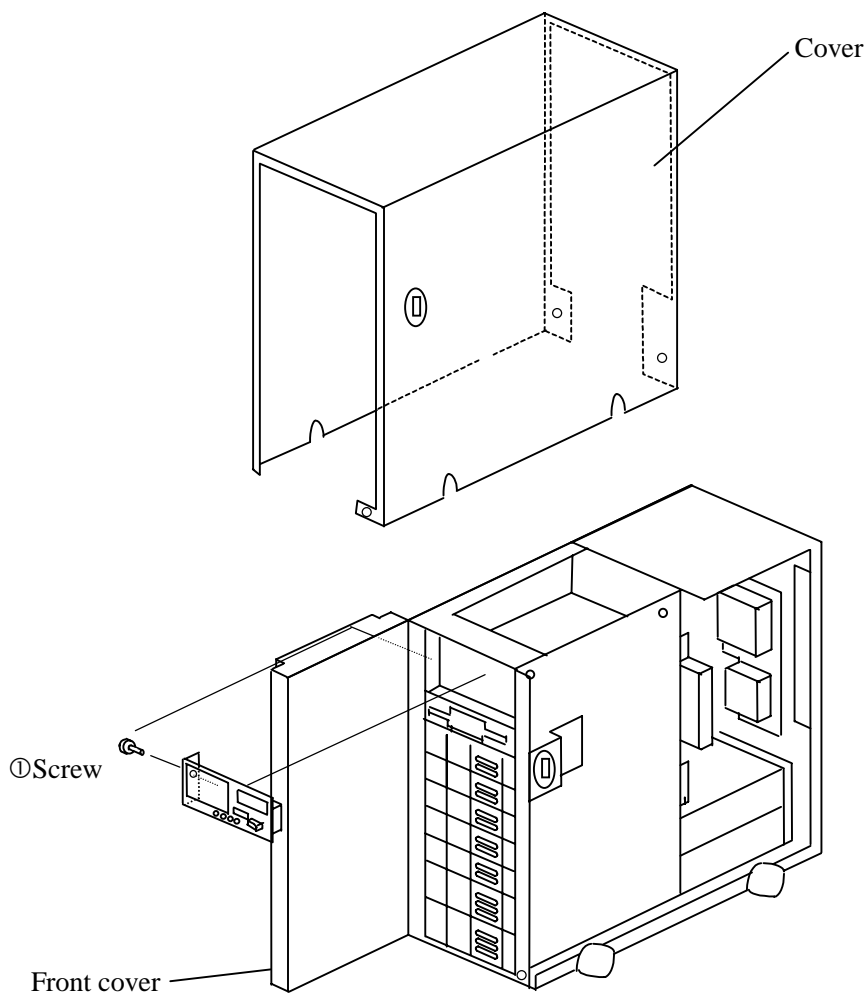

Figure 7 Replacement SVP ASSY
7. Replacing the SVP ASSY (See Figure 7.)